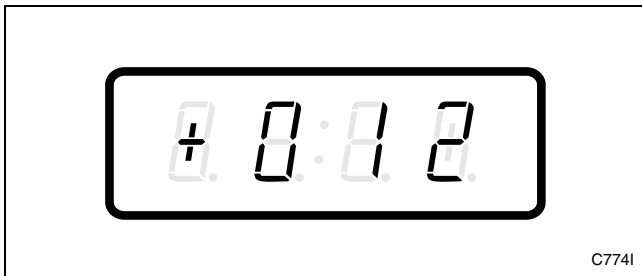

Figure 53
3. Press the DELICATES (+) or the COLD (-) keypad to scroll through the programmable options until “+012” appears in the VFD. Refer to *Figure 53*.